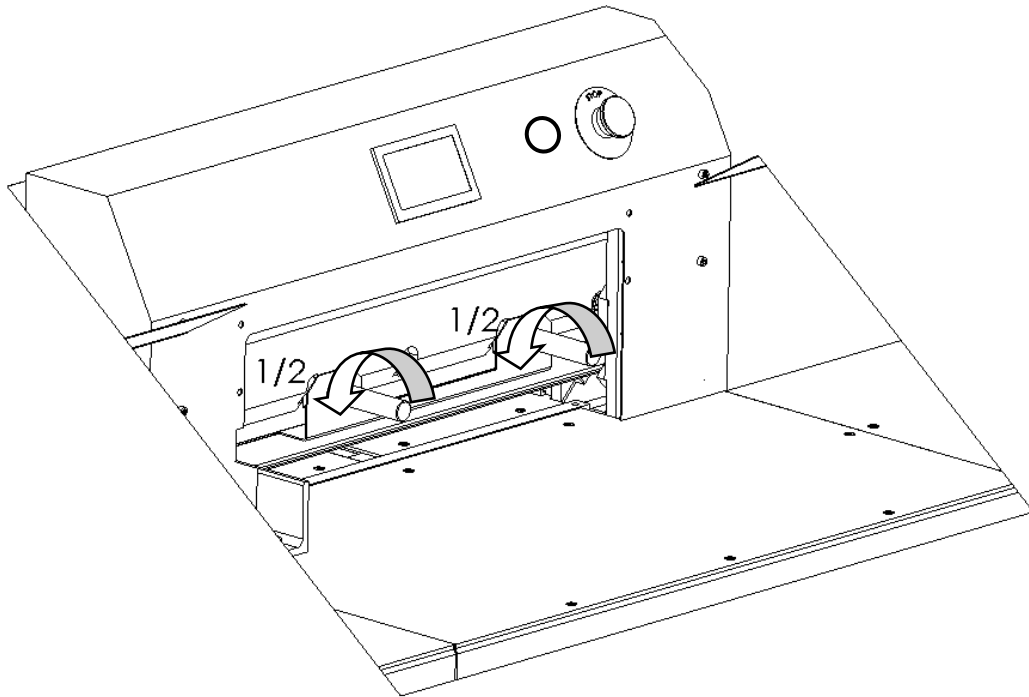
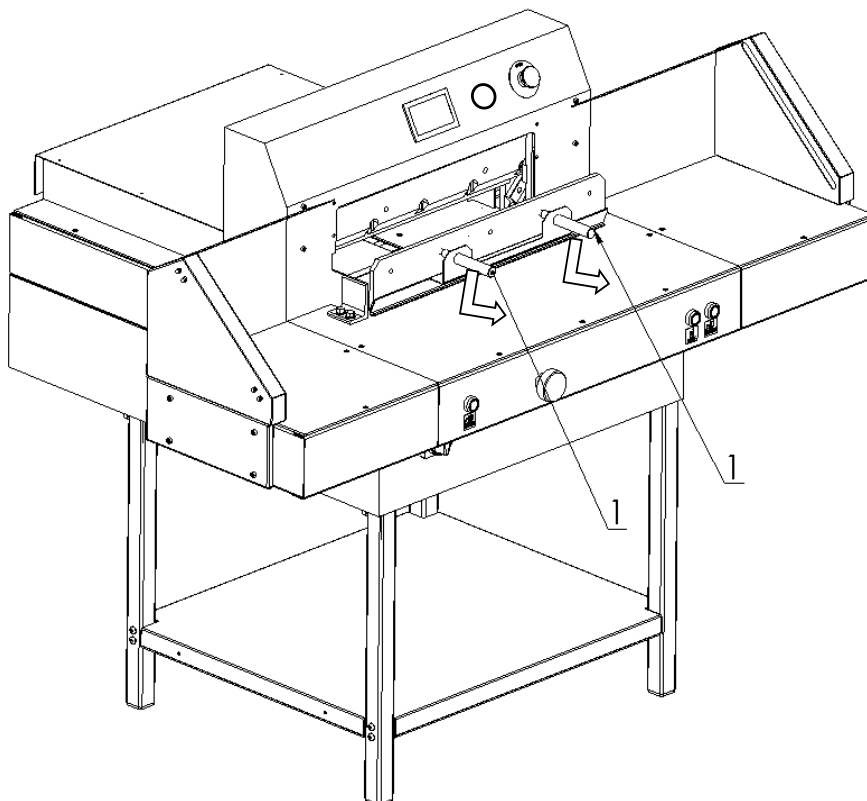

Figure 26.
Figure 27.
8.1.1.12 holding the transport handles release the clamp by turning them 1/2 turn at a time to the left (fig 26) and carefully pull the knife down (fig 27). Take the removed knife